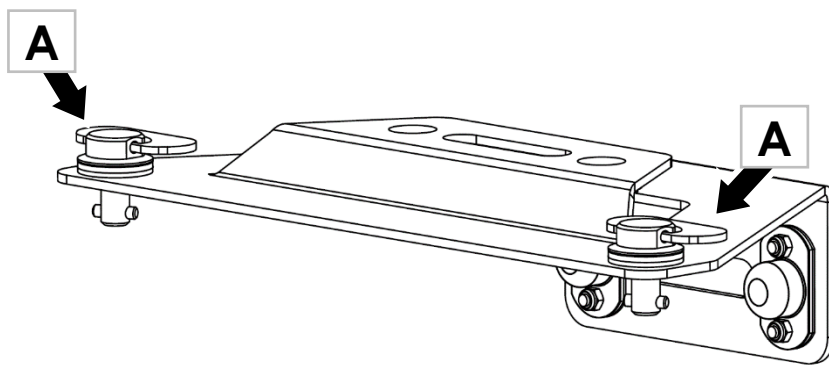

Figure 4. JDC Line Rigging Bracket
1. See Figure 4. Push the quarter-turn fasteners **A** on the Rigging Brackets into the quarter-turn mounting holes on the top of the fixture.